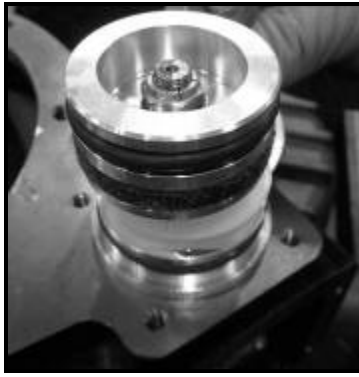

Figure 87
- Position the piston on the shifter shaft. The end of the piston with the counterbore should be facing outward. Push the piston down to compress the spring and install the shifter shaft washer and locknut. Torque the nut to specification. See **Figure 87**.